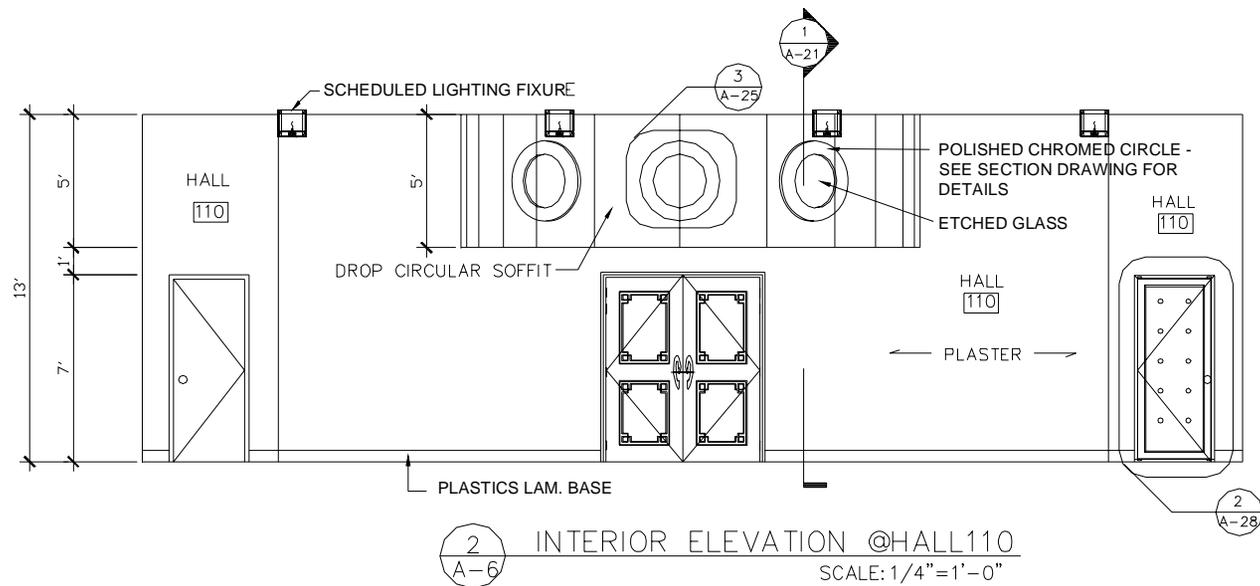

Figure 40. Section and detail symbols shown on an elevation drawing
1. Draw cross-reference symbols such as section or detail symbols (Figure 40).